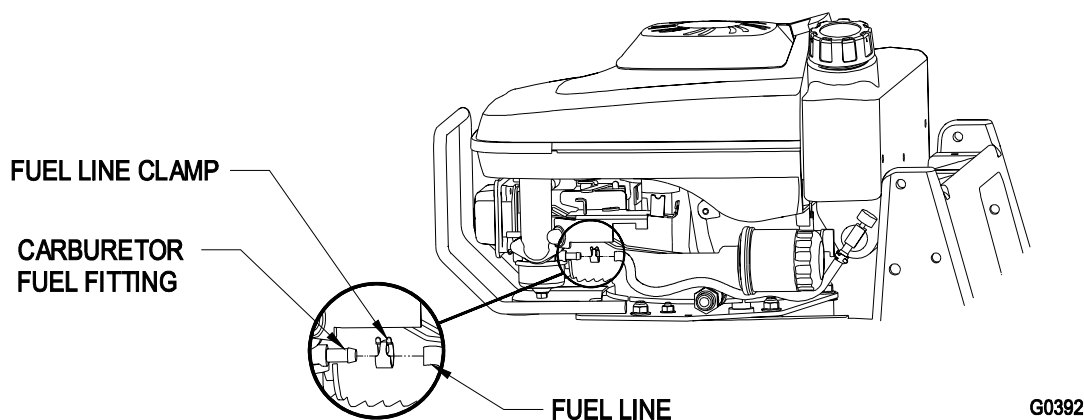

FIGURE 3
4. Remove the red cap from the end of the fuel line and from the end of the carburetor fuel fitting (Fig. 3).
5. Slide the end of the fuel line onto the carburetor fuel fitting (Fig. 3).
6. Secure the fuel line in place with the fuel line clamp (Fig. 3).